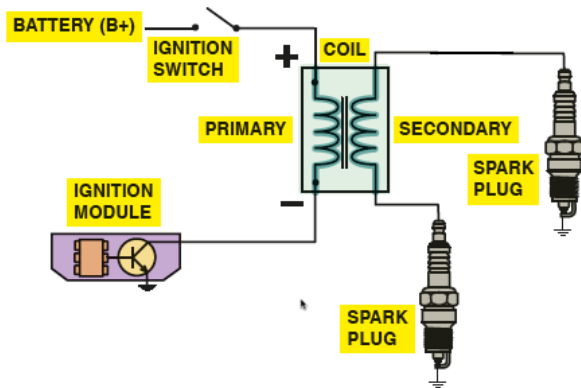

Figure 12. Waste spark system.
- Waste-spark system . This type of system uses one ignition coil to fire the spark plugs for two cylinders at the same time. Fig. 12.